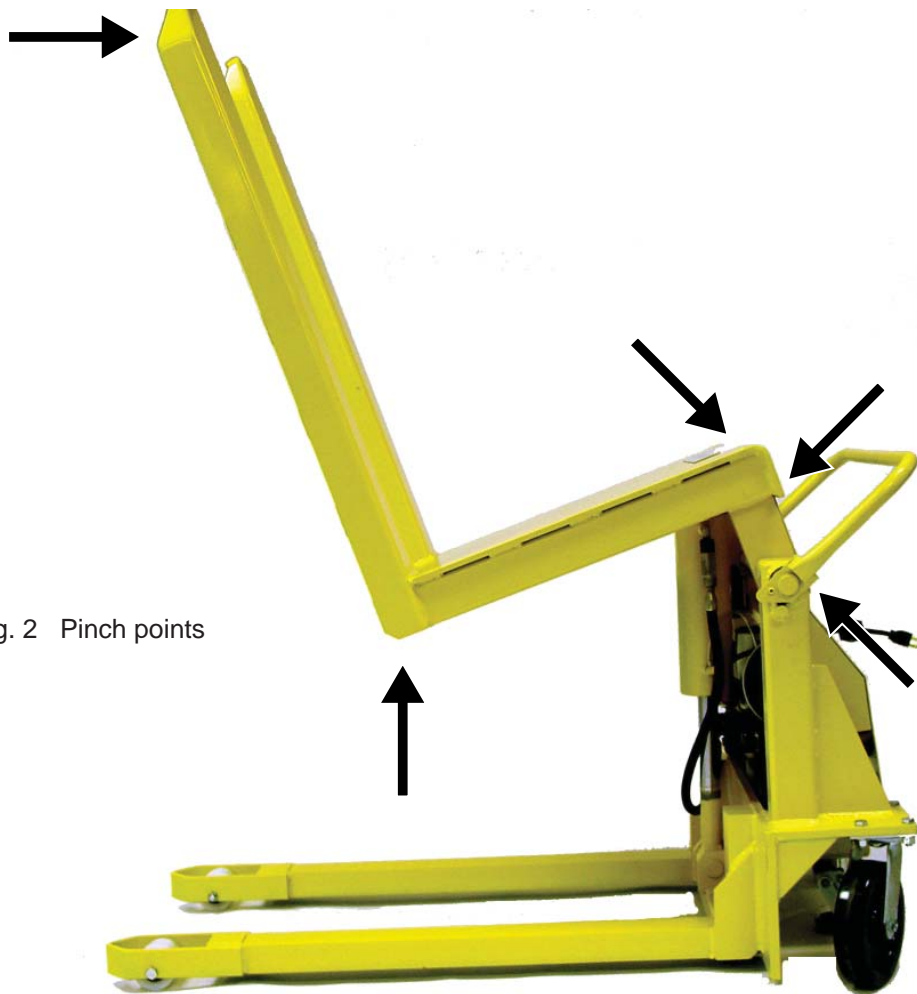

Fig. 2 Pinch points
As the tilt platform moves up and down, "pinch points" are created at the places shown in Fig. 2. If you are standing too close to the unit when it is moving, your arm or leg may be caught in the moving parts, and you may be hurt. Stay away from the pinch points when the unit is moving.
- As the unit is operating, stay away from the moving parts shown in Fig. 2.
As the tilt platform moves up and down, “pinch points” are created as shown in Fig. 2. Stay away from these pinch points! Part of your body or clothing may become caught, and you may be hurt. Do not put your hands or feet under the tilt platform. Do not stand or sit on the tilt platform.
As the tilt platform moves up and down, “pinch points” are created as shown in Fig. 2. Stay away from these pinch points! Part of your body or clothing may become caught, and you may be hurt.
- **As the unit moves up and down, "pinch points" are formed as shown in Fig. 2. Keep hands, feet, and loose clothing away from these pinch points. If your hand or arm or a part of your clothing is caught, you may be hurt.**